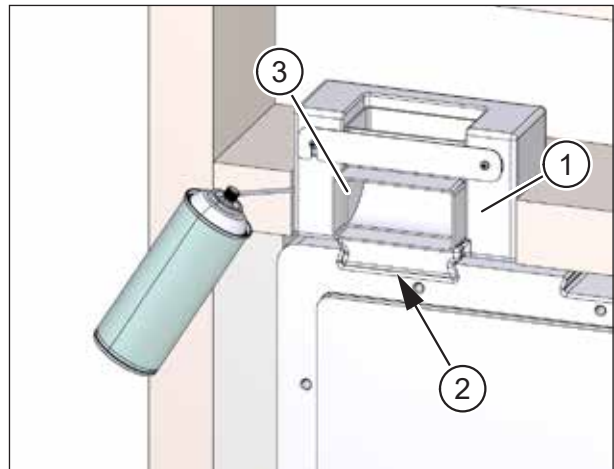
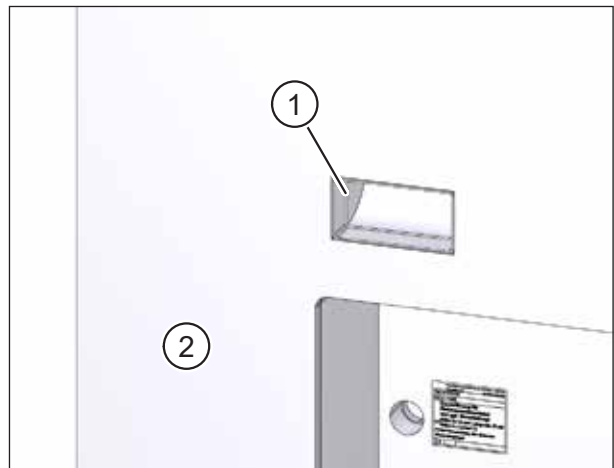

Fig. 26: Inserting ductwork connection adapter and filling gaps with foam
Fig. 27: Flat ductwork elbow and internal wall cladding ending flush
- ▶ Insert the ductwork connection adapter (item 1 in Fig. 26) into the guide (item 2 in Fig. 26) on the top of the wall box (on the extract air side, supply air side or on both sides as shown in the plans).
- ▶ Push the ductwork connection adapter in until the flat ductwork elbow (item 3 in Fig. 26, item 1 in Fig. 27) ends flush with the subsequent internal wall cladding (item 2 in Fig. 27). The flat ductwork elbow may be shortened if necessary.